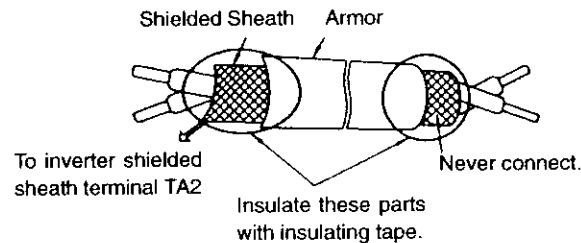

Fig. 5 Shielded wire termination
- Use a shielded wire to connect to the PG. Connect the wire as shown in Fig. 5 to prevent interference by noise. The wire must be 50m or shorter.